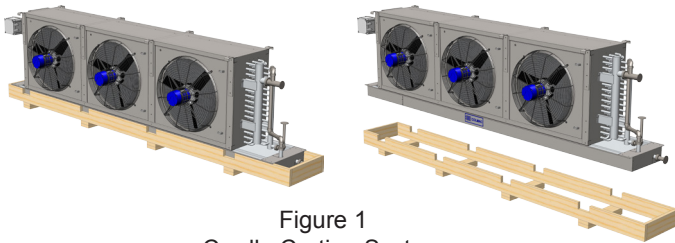

Figure 1
**Cradle Crating System:** The unique cradle crating system from Colmac Coil supports the full weight of the air cooler while withstanding the rigors of shipment. The cradle crate also safely supports the weight of the air cooler while it is lifted into position from below. Then after the air cooler is secured to the ceiling, the crate easily comes away from the unit by gravity allowing it to be safely lowered to the ground. See Figure 1.